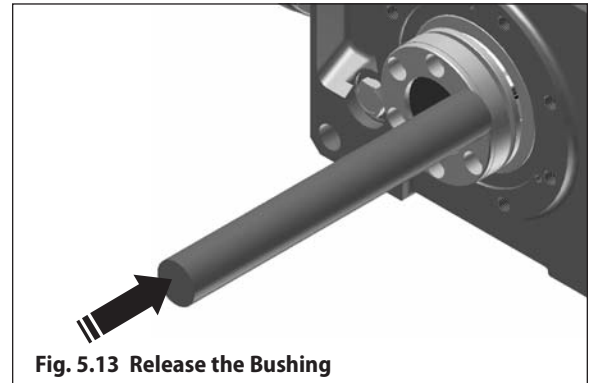

Fig. 5.13 Release the Bushing
Step 6 – Place a copper or brass bar against the flange of the Taper-Grip® Bushing and carefully strike end of bar with a hammer to release bushing (see Fig 5.13).